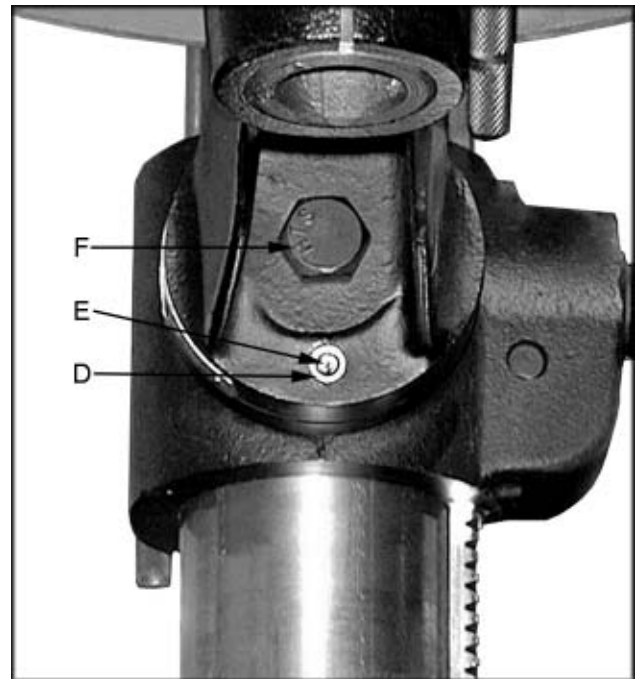

Fig. 11
1. Turn nut (D, Fig. 11) clockwise to pull out the alignment pin (E, Fig. 11).
2. Loosen hex cap bolt (F, Fig. 11), and tilt the table to the desired angle.
3. Tighten the hex cap bolt (F, Fig. 11).